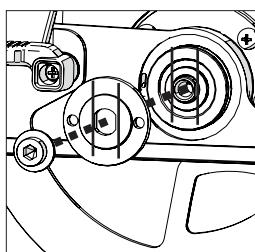

Fig. 7a
**Note:** The outer drive flange has a specially machined bore which incorporates two opposed 'flats.' (**Fig. 7a**) These 'flats' engage with two complimentary 'flats' machined into the machines arbor shaft.